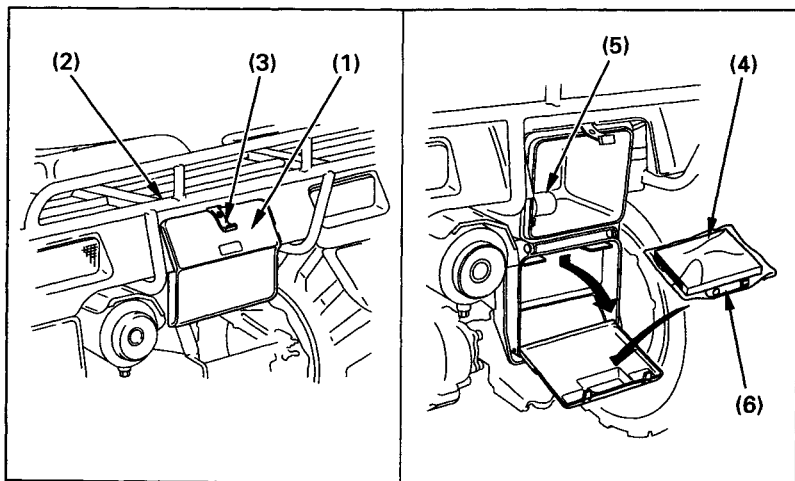

Fig. 2-25 (1) Storage compartment
The storage compartment (1) (Fig. 2-25) is below the rear cargo rack (2). To open the compartment, unhook the rubber strap (3). The owner's manual (4), tool kit (5), and air pressure gauge (6) should be stored in the storage compartment (1).